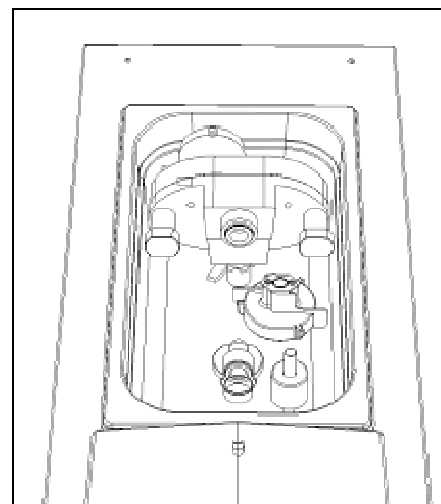

**Fig. 23**
- **O**nce you have correctly mounted the flange, screw the security knobs right down (fig. 23).